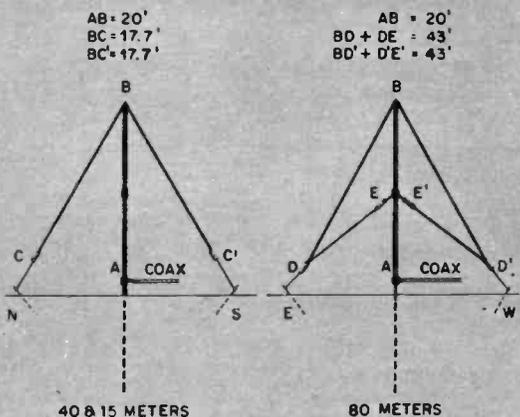

Fig. 2—Diagrams show approximate lengths for all sections. Guys BC and BC' operate on 40-15 meters; guys BDE and BD'E' are for 80 meters.
Fig. 4—After circuit board is installed, connect leads to components mounted in cabinet, using the diagram in Fig. 2 as a guide. If you'd rather not attempt to make a printed-circuit board, use regular perforated board and flea clips.
detail in a moment, should be about 14-gauge wire. Be sure to space them roughly 90 degrees apart around the mast. The directional letters (N, S, E, W) in Figs. 2 and 4 are merely to remind you of the 90-degree spacing.
The lengths of the four guys are shown in Fig. 2. To arrive at the proper length for a  $\frac{1}{4}$ -wave against ground, divide your operating frequency in megacycles into 234 (using what is called the 234 Formula). Just for the record, the complete formula we're dealing with
The diagram at the right in Fig. 2 indicates that two of the guys should be 43 feet long. When you add the length of the guy (43) to the height of the mast (20), you get 63 feet, which is exactly what the formula gives you as the length of a  $\frac{1}{4}$ -wave element cut for the center frequency of the 80-meter Novice band.